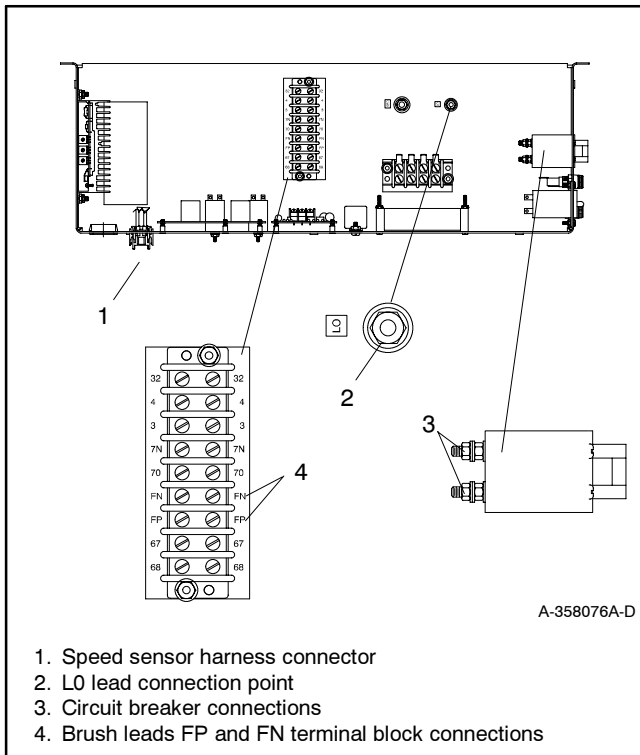

Figure 8-3 Controller Top View, Typical
3. Disconnect the alternator wiring. See Figure 8-3.